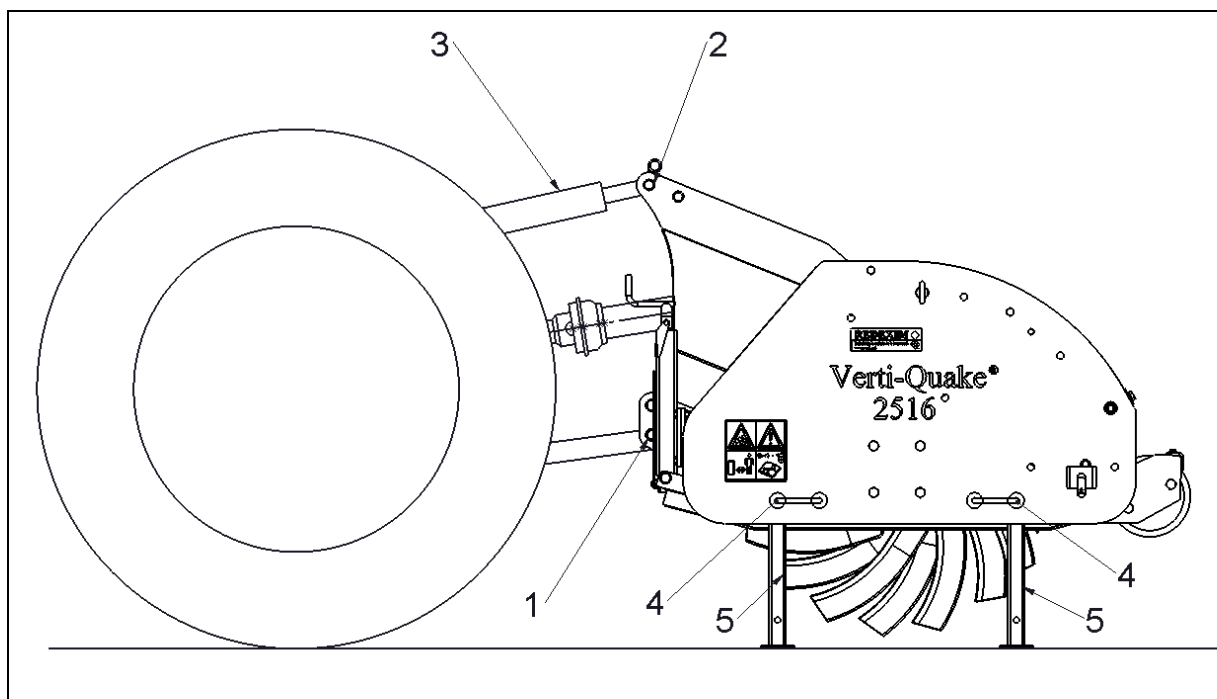

Fig. 9
5.0 KOPPLING TILL TRAKTORN (Fig. 9)